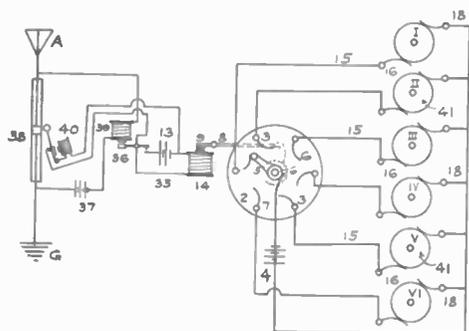

Fig. 1
M.E. -FIG. 1-
The core laminations are cut as shown in Fig. 1, from stovepipe iron about twenty to the inch. Only two sizes are made  $1\frac{1}{2}$  in. by  $6\frac{1}{2}$  in. and  $1\frac{1}{2}$  by  $3\frac{1}{2}$  in. Enough of each size should be cut to make a pile three inches deep. This is best done at a tinshop on the square shears, as then all the pieces will be of a uniform size.